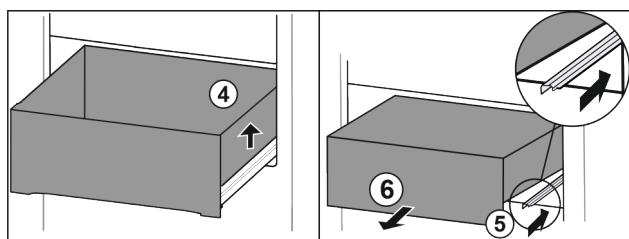

Fig. 87
- Lift drawer on the right. Fig. 87 (4)
- Slide in right rail. Fig. 87 (5)
- Remove drawer to the front. Fig. 87 (6)